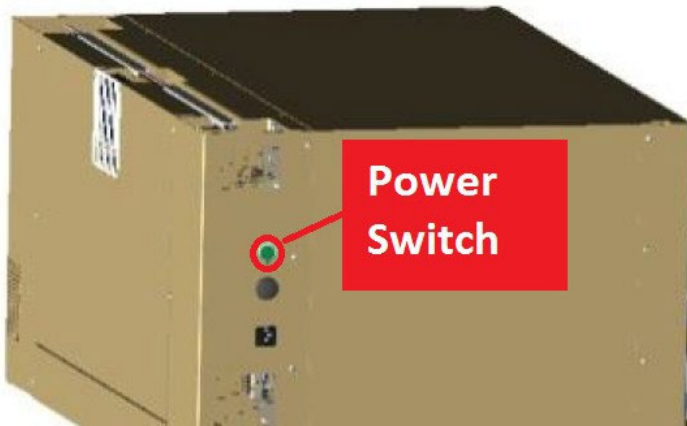

Figure 24. Multitron “Pro” Power Switch
- b. Power OFF the Multitron incubator using the green power switch on the left side of the unit (refer **Figure 24**).